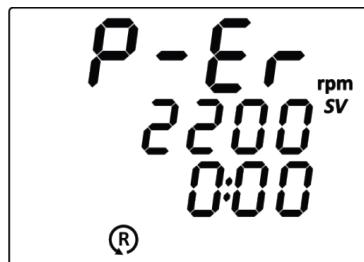

Figure 11 - Rotational speed sensor fault
- 8.4.5. If the display shows indicator of the rotational speed sensor fault and displays corresponding fault message (Figure 11), then stop operation of the stirrer and contact the manufacturer's service center.